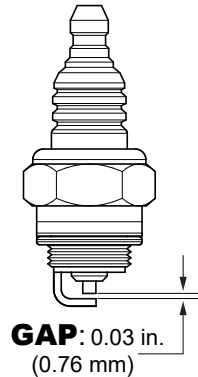

Figure 18. Spark Plug
1. Remove the **spark plug** (Figure 18) and clean it with a wire brush if it is to be reused. Replace the spark plug if the insulator is cracked or chipped.
2. Using a feeler gauge, adjust the **spark plug gap** (Figure 18). The gap should measure 0.03 inch (0.76 mm).